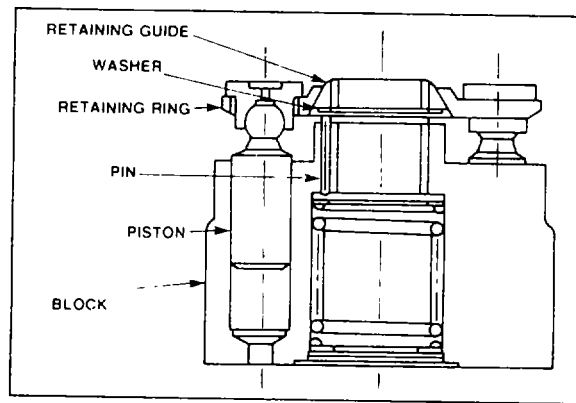

Figure 4-14. Cylinder Block Kit
- e. Install the valve plate locating pin (7) in the end cap (4). The pin will protrude from the housing approximately .050-.094".
- f. Install the end cap gasket (6) onto the housing being certain the locating pins (5) are in place.
- g. Install a new o-ring (12) on the adjusting screw (11). The o-ring must be well lubricated prior to installation. Install the adjustment screw (11) (threaded end first) into the cylinder rod of the end cap (4). Using an internal hex wrench, turn the adjustment screw counterclockwise until the screw is against the internal thread stop. This is the maximum flow position.
- h. Lubricate the end cap face with clean hydraulic oil. Then install the valve plate (9) so that the slot locates over the locating pin (7) and the center bore fits over the protruding bearing race (8).
- i. Lubricate the cylinder rod and the inside of the control cylinder (13) with clean hydraulic oil. Slide the control cylinder onto the cylinder rod.
- j. Install bias spring (18) and spring retainer (17) into the housing (23). Insert the swashplate (16) into the housing insuring that spring retainer is completely inserted in the hole in the back side of the swashplate.
- k. Install new o-rings (21) on trunnions (20). Insure that trunnions are on correct side of the housing and oriented correctly then, carefully drive trunnions into place. Install capscrews (19) and torque to 7-9 ft-lbs.
- l. Lubricate the thrust plate (14) with clean hydraulic oil and install it into the counterbore of the swashplate (16). Make certain the thrustplate lies flat against the swashplate face.
- m. Prior to assembly of the cylinder block (10), inspect the pistons, retaining ring, retaining guide, washer and pins for damage, contamination or excessive wear. Replace any parts found to be defective. If one or more pistons are found to be defective, it is necessary to replace the complete cylinder block kit. Refer to Figure 4-14 and the following steps to assemble the block kit.